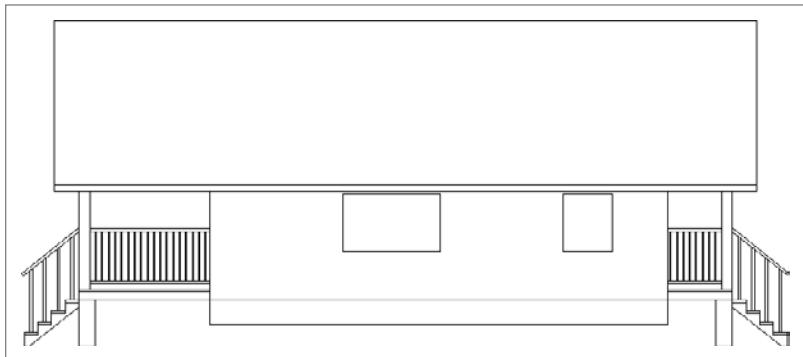

FIGURE 10.41 Use the FILLET command to construct the new windows.
7. Use the FILLET command to construct the new windows. If necessary, use Selection Cycling to aid in selecting the correct line when filleting the top of your windows. Your elevation should look like Figure 10.41.